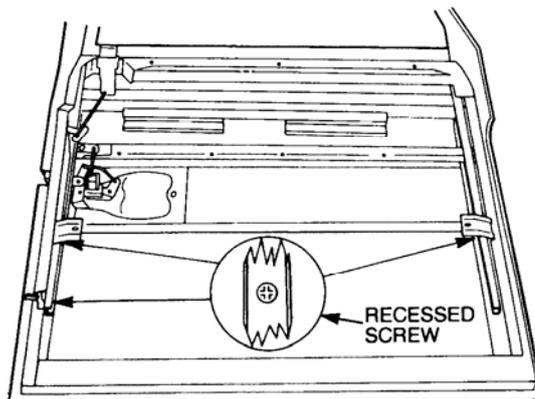

Figure 16 Window Channel Lower End Detachment
- u. Remove the recessed screws securing the lower end of the rear window channel (refer Figure 16).
- n. Secure the channels with the recessed screws, except the two screws fitted to the bottom of the rear vertical channel (refer Figure 16).